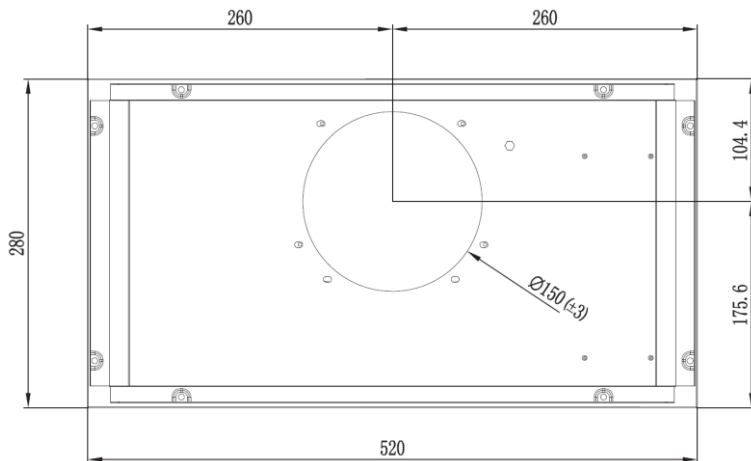

Fig. 4
3. According to the following distance, using a pencil mark 8 holes of on the cabinet (see Fig. 4)